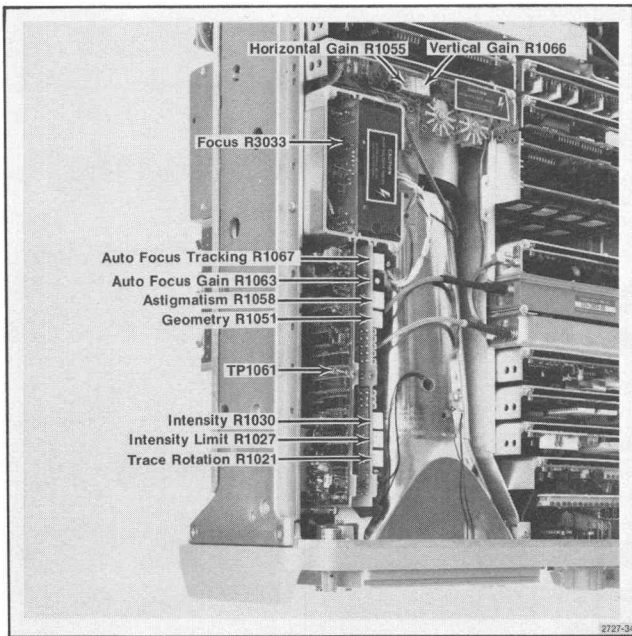

Fig. 3-23. Adjustments and test points on the deflection amplifier, High Voltage module, and Z Axis/RF Interface board.
b. Adjust the REF LEVEL so the trace is mid-screen; then adjust Trace Rotation, R1021 (Fig. 3-23), so the trace aligns with the graticule line.
d. Alternately switch the Vertical Display between the 2 dB/DIV and 10 dB/DIV mode, increasing REF LEVEL to -80 dBm in the 10 dB/DIV mode, and adjust Geometry, R1051 (Fig. 3-23), for the straightest trace at the top and bottom of the screen.
e. Change the FREQ SPAN/DIV to 200 MHz and activate 2 dB/DIV mode; then adjust Focus, R3033 (High Voltage module see Fig. 3-23), to defocus the frequency dot. Adjust Astigmatism, R1058 (Fig. 3-23), for a round dot. Re-adjust Focus for the sharpest dot.
f. Using the crt readout characters, adjust Auto Focus Gain, R1063 (Fig. 3-23), for the best edge focus at low intensity and the Auto Focus Tracking, R1067 (Fig. 3-23), for best focus at high intensity.
h. Turn INTENSITY control fully cw and adjust beam current with R1027 (Fig. 3-23) for 0.90 volt.
- j. Turn INTENSITY down until trace is just discernible. Adjust R1030 (Fig. 3-23) so the readout characters are just discernible.
c. Adjust Vert Gain, R1066 (Fig. 3-23), for a full screen display (0 to +4 V). Remove the 5 kHz signal from pin 2 of the ACCESSORIES jack.
f. Connect a digital voltmeter (DVM) to TP1061 (Fig. 3-23) and adjust MANUAL SCAN for 0.0 volt at TP1061. Adjust horizontal Position to center MANUAL SCAN dot.
g. Adjust MANUAL SCAN for a reading of +5 volts at TP1061. Now adjust Horiz Gain, R1055 (Fig. 3-23), to position the crt beam to the right graticule edge (10th graticule line).